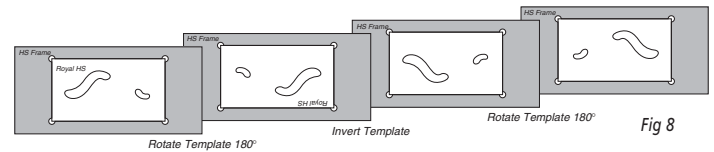

Fig 8
- Repeat entire procedure for all templates in each design (Fig 8)